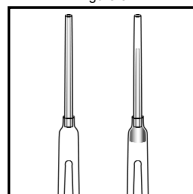

Figure 4
7. **Required for R-4605D only:** Pull the VACUette into a vertical position. A small portion of the collected sample should fall into the sleeve of the VACUette tip (fig. 4).